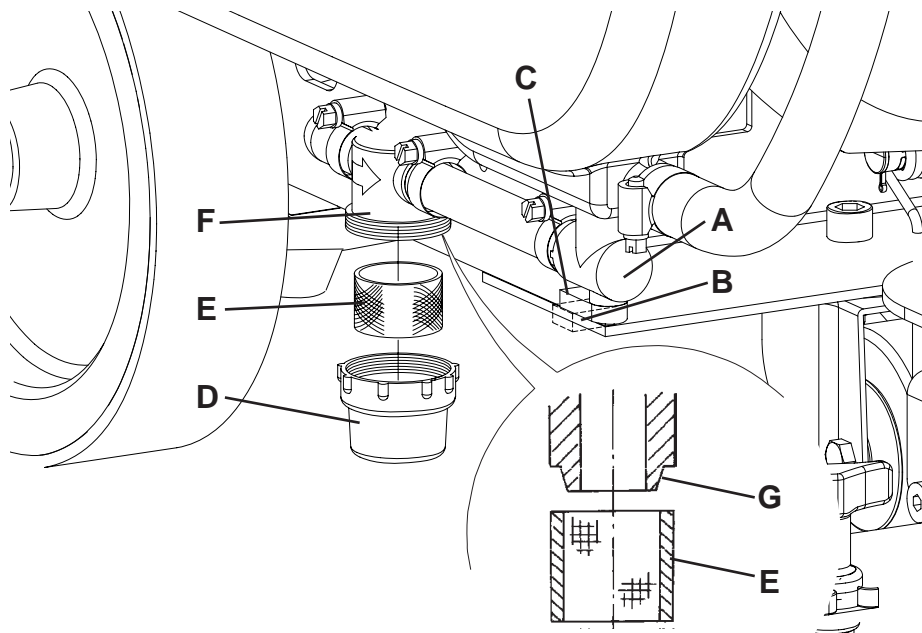

Figure 8
2. Turn the ignition key (80) to "0".
3. Close the solution tap (A, Fig. 8) under the machine, behind the right rear wheel. The tap (A) is closed when it is in the position (B) and it is open when it is in the position (C).
4. Remove the transparent cover (D), then remove the filter strainer (E). Clean and install them on the support (F).